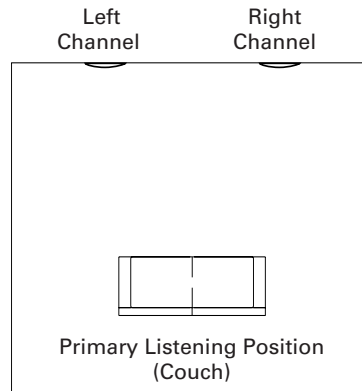

Figure 6: 2-Channel Placement
- It is recommended that the angle formed between the speakers and the listening area be between 45° and 60°. For example, if the speakers are 8 feet apart, the listening position should be 8 to 12 feet from each speaker. Refer to Figure 6.